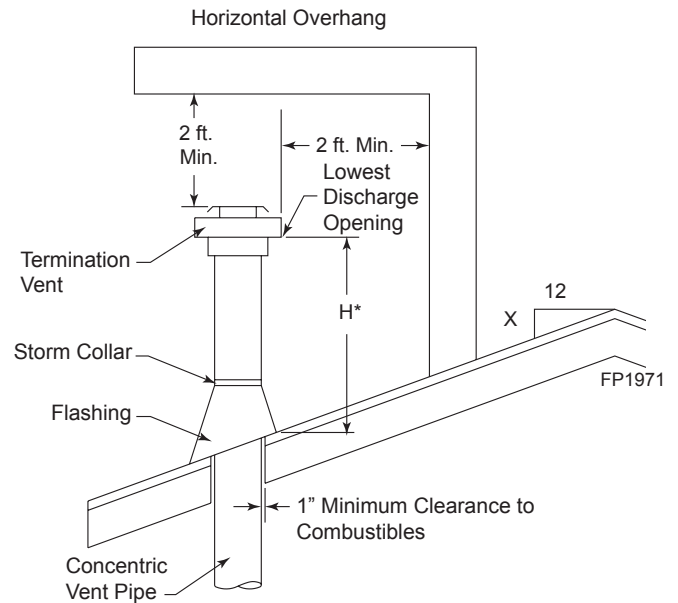

Figure 40 - Minimum Chimney Clearance
- For the minimum height of the vent above the highest point of penetration through the roof refer to *Page 23, Figure 40*.